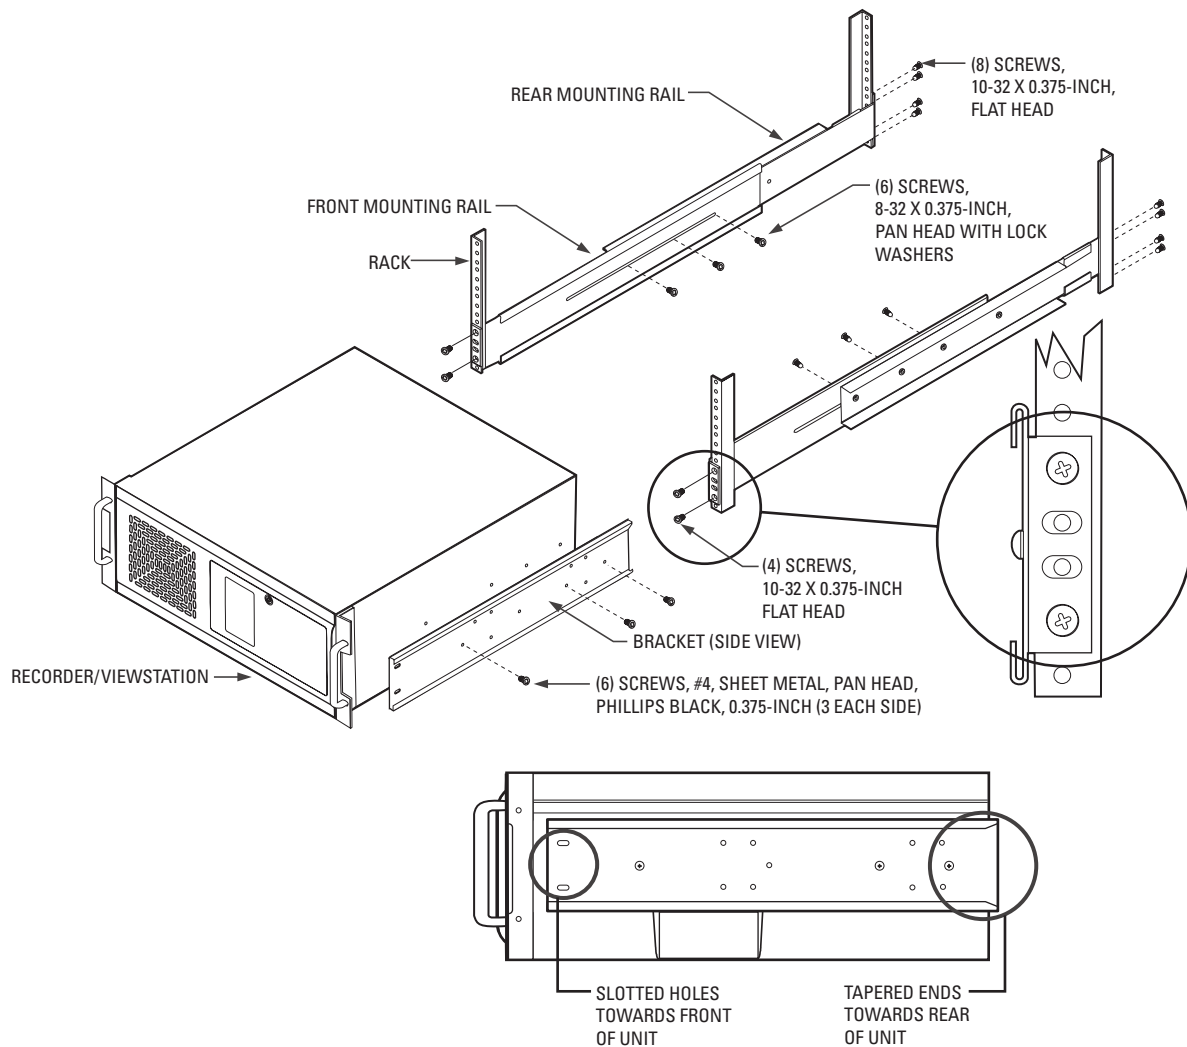

Figure 6. Rack Mount Installation
4. Using the remaining six #4 sheet metal Phillips 0.375-inch pan head screws, attach the two chassis brackets to the left and right sides of the unit. Refer to Figure 6.